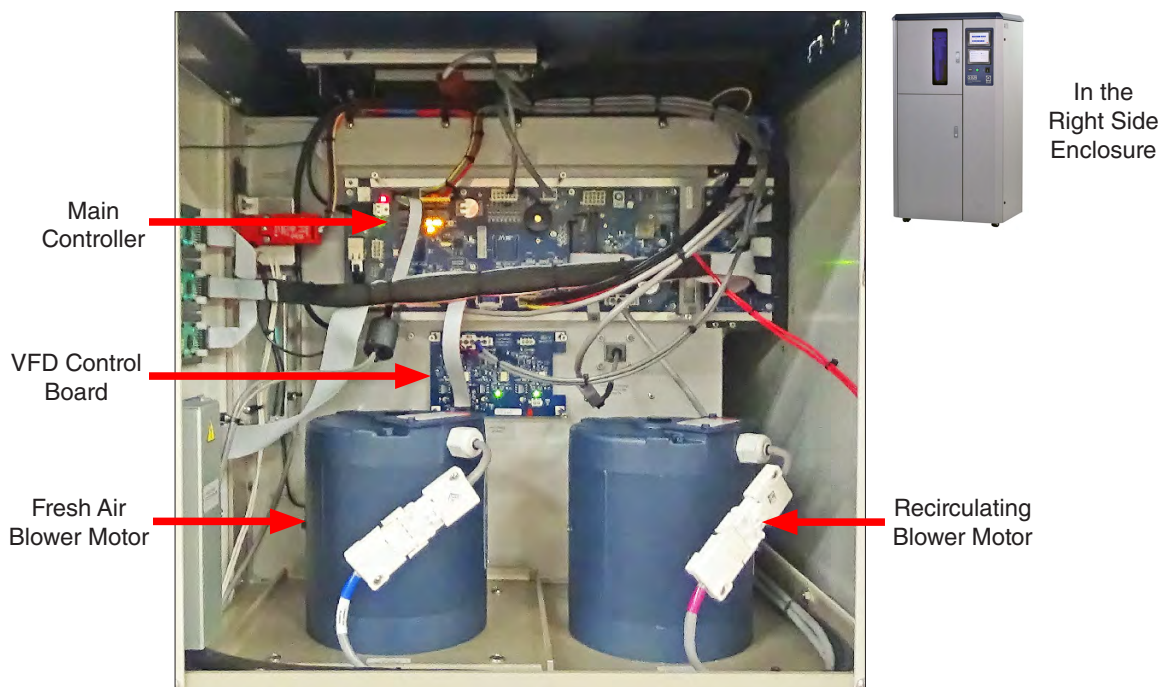
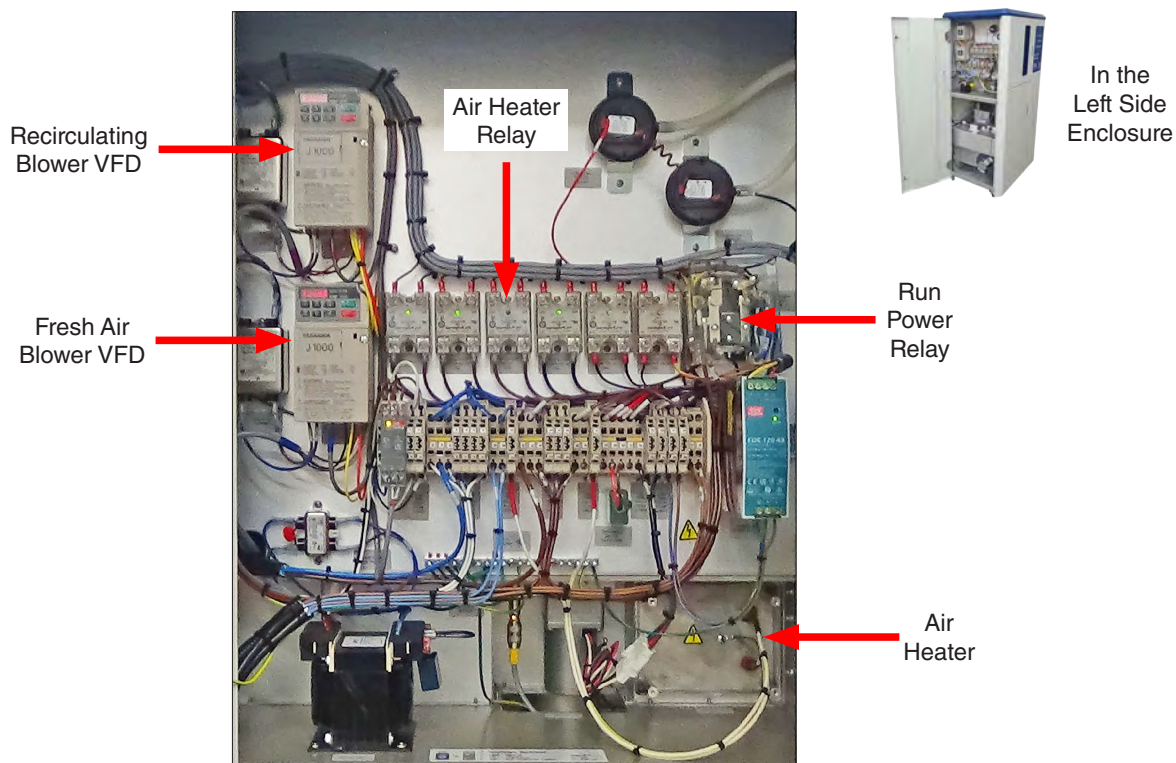

Figure 8.6b: Air circulation components including the main controller Variable Frequency Drive (VFD) control board and blower motors.
Figure 8.6c: Air circulation components including variable frequency drives, relays, and the air heater.
- The air temperature is controlled using variable speed blower systems and an air heater (Figure 8.6b and Figure 8.6c).